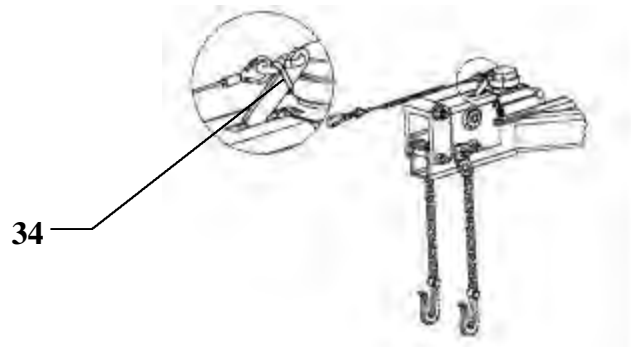

Figure 7
16. Install supplied tie-wrap (34) on emergency brake lever/cable assembly (figure 7). Make sure tie wrap goes through the eye of the “S” hook and around the lever. This ensures the cable cannot be damaged by contact between the sheet metal master cylinder cover and the cast housing when the trailer is in service.